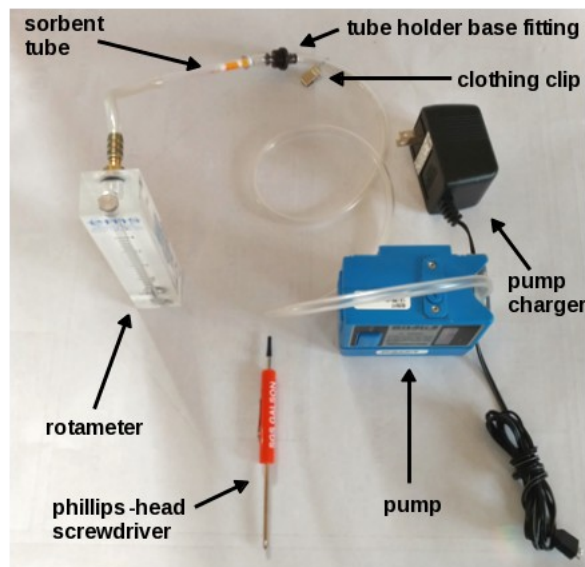

Figure T1-6. Sampling train configuration for field calibration checks.
(1) Assemble the sampling train as shown in Figure T1-6. The long 5/16" OD clear tubing going through the clothing clip(s) connects the pump to the black tube holder base fitting. A short 3/8" OD clear tube connects the black tube holder base fitting to the opened sorbent tube (See Notes T1-3 and T1-4). The 3/8" OD clear tubing coming out of the rotameter, goes to the other end of the opened sorbent tube (See Notes T1-6 and T1-7).